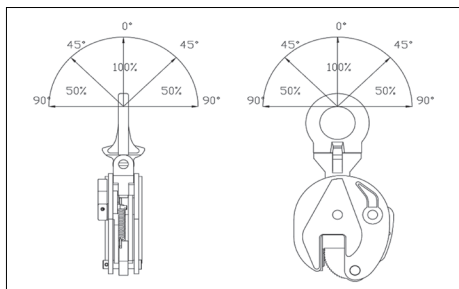

Fig. 9
**ATTENTION:** In the case of angled pulls, the working load must be reduced according to the diagram in Fig. 9.